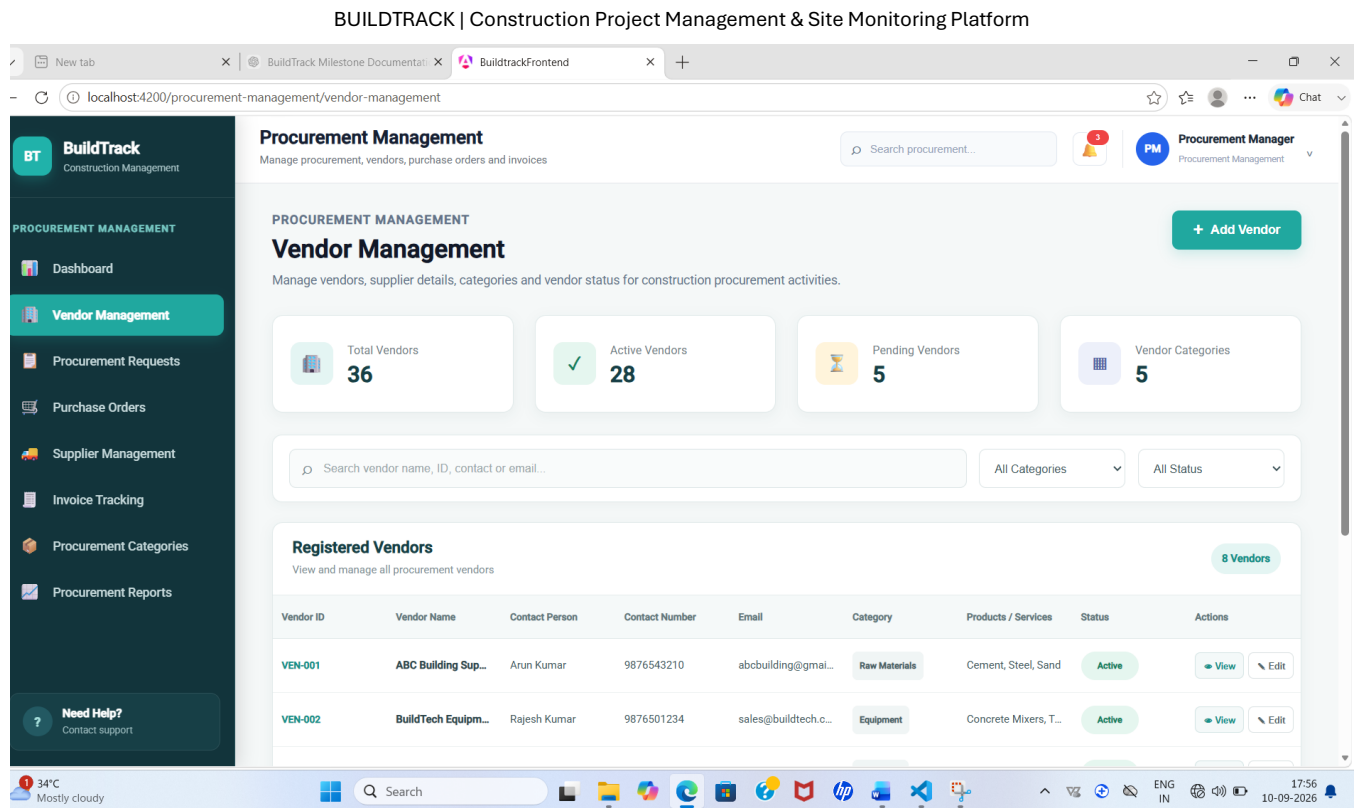

Figure 14: BuildTrack – Vendor Management
- Figure 14 – Vendor Management